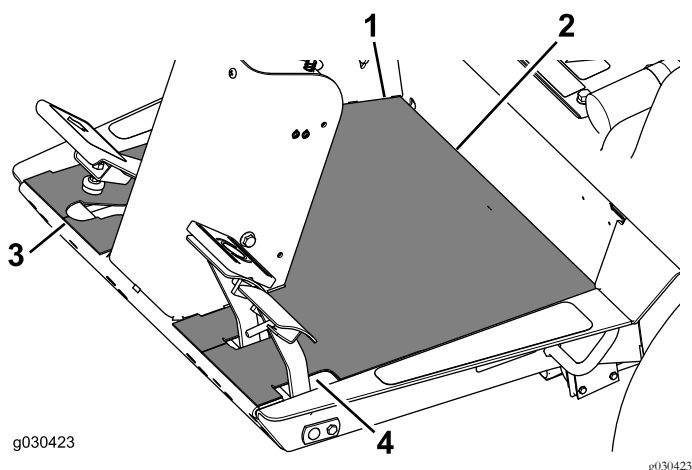

**Figure 21**
- Secure the pin using the bolt (1/4 x 3/4 inch) and locknut (Figure 21).